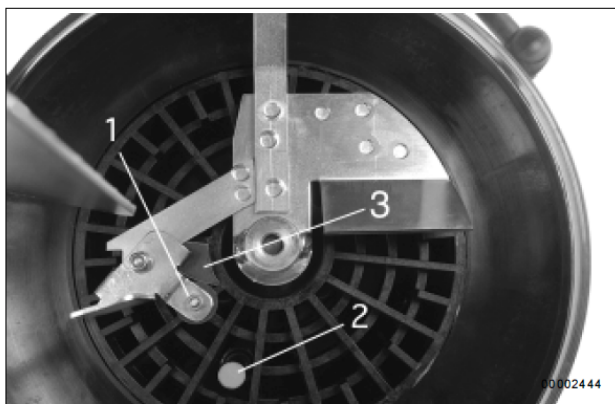

Fig. 33 - Switching parts of the low-level control
- Due to the rotating motion of the stirring paddle in the lubricant the pivoting guiding plate with the round solenoid, item 1 fig. 33, is pressed backwards. The solenoid moves towards the center of rotation of the stirring paddle. The electromagnetic switch, item 2, **cannot** be activated.
- Control cam, item 3, guides the round solenoid with the pivoting guiding plate automatically outwards, in the direction of the reservoir wall. After the lubricant has left the control cam, it flows against the guiding plate, thus displacing the solenoid again onto the center of rotation of the stirring paddle.